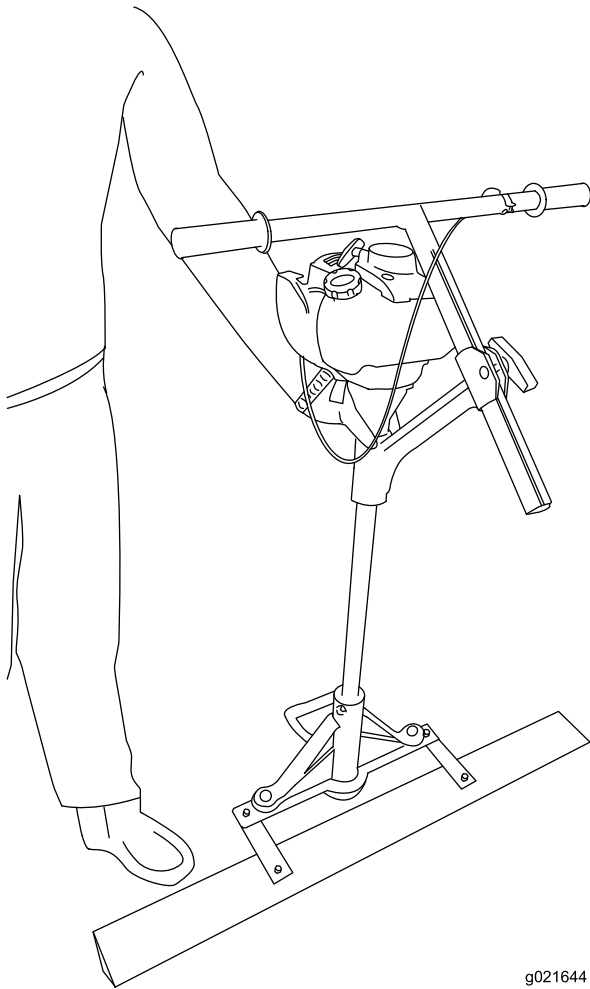

Figure 15
- Use the gas-filling position whenever you fill the gas tank (Figure 15). With a firm hand on the shaft of the machine and a gas can next to the operator, unscrew the gas cap, pickup the gas can, and fill up the gas tank on the machine.
3. Move the machine to the gas-filling position (Figure 15).